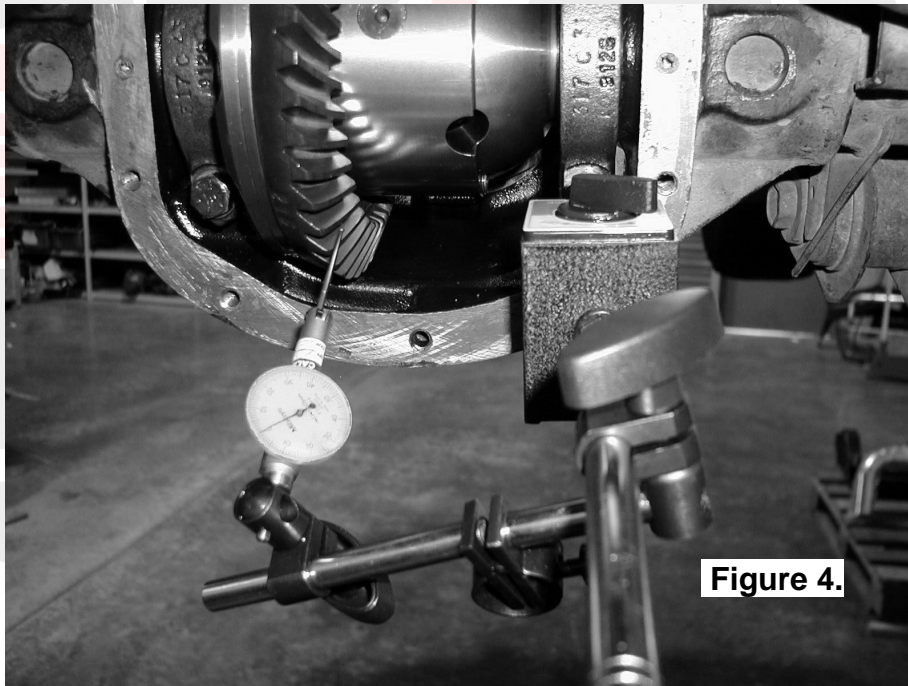

Figure 4.
- ☐ Set a depth indicator on one of the ring gear teeth as in figure 4.